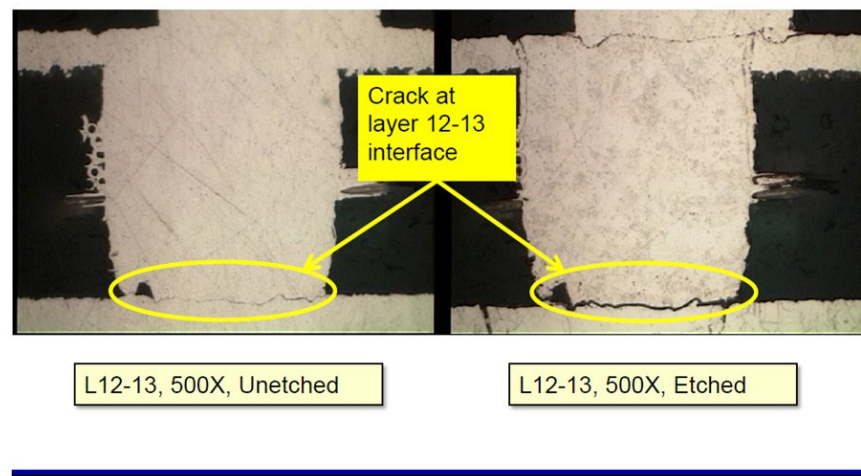

FIGURE 1. The WMI latent defect observed after six reflows of 230 OC. [used with permission][4]
- The defect manifests itself as a fracture at the metallurgical interface of a microvia to the copper layer below it or to another microvia below it. (see Figure 1)